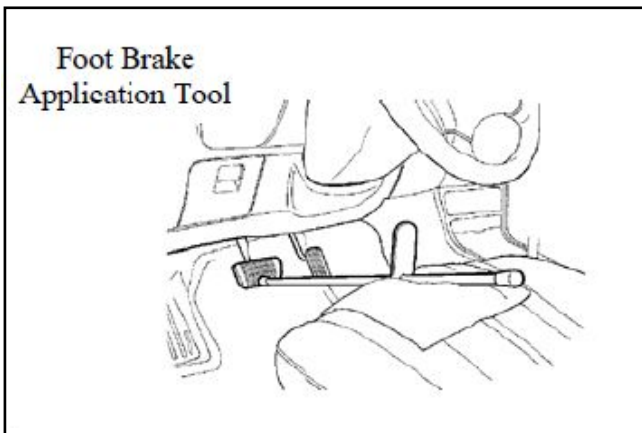

Figure 3
c. Add seat protection (blanket) and apply foot brake using foot brake application tool. **(Optional Step)** Lift vehicle. Figure 3.